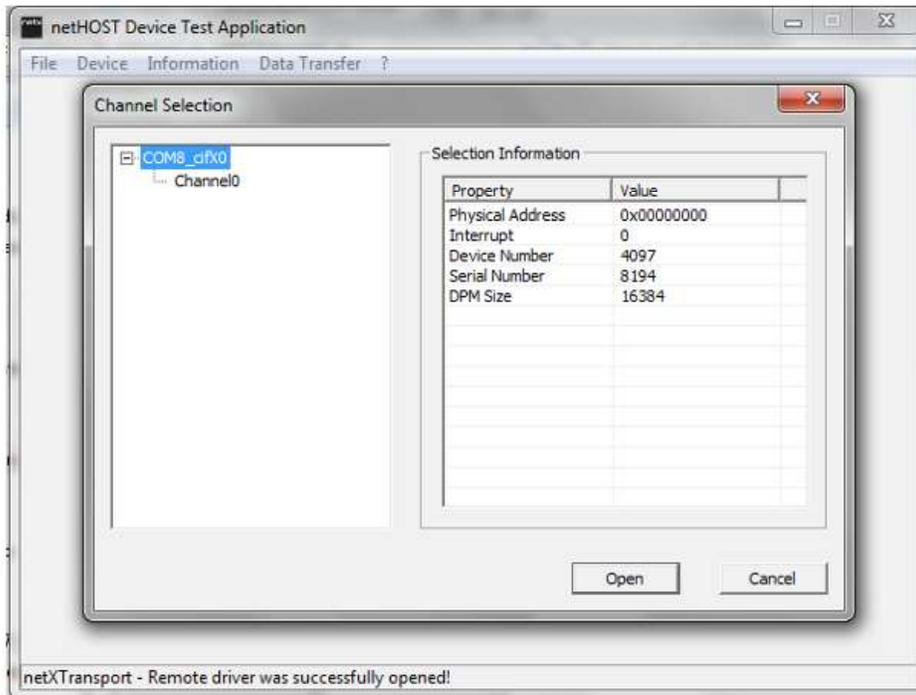

Figure 41: Channel selection [netHOST\_open\_2]
16. The pop-up "Channel selection" appears. Select "COM8\_cifX0" and click "Open" (Figure 41, ¶ STMA-69235);